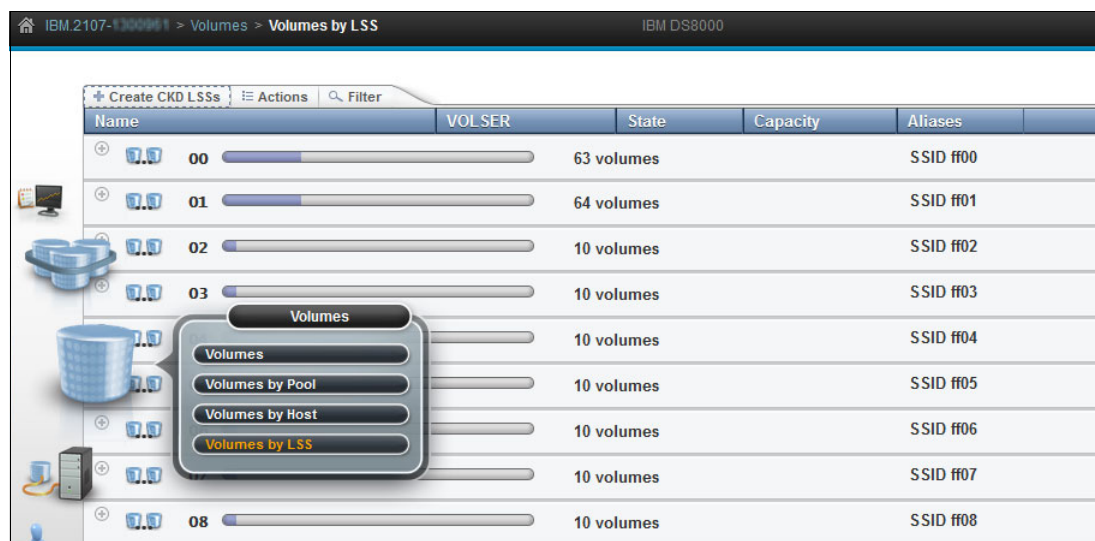

Figure 11-90 Create CKD volumes by LSSs
3. Click the **Create CKD LSSs** tab from the Volumes by LSS page as shown in Figure 11-90.